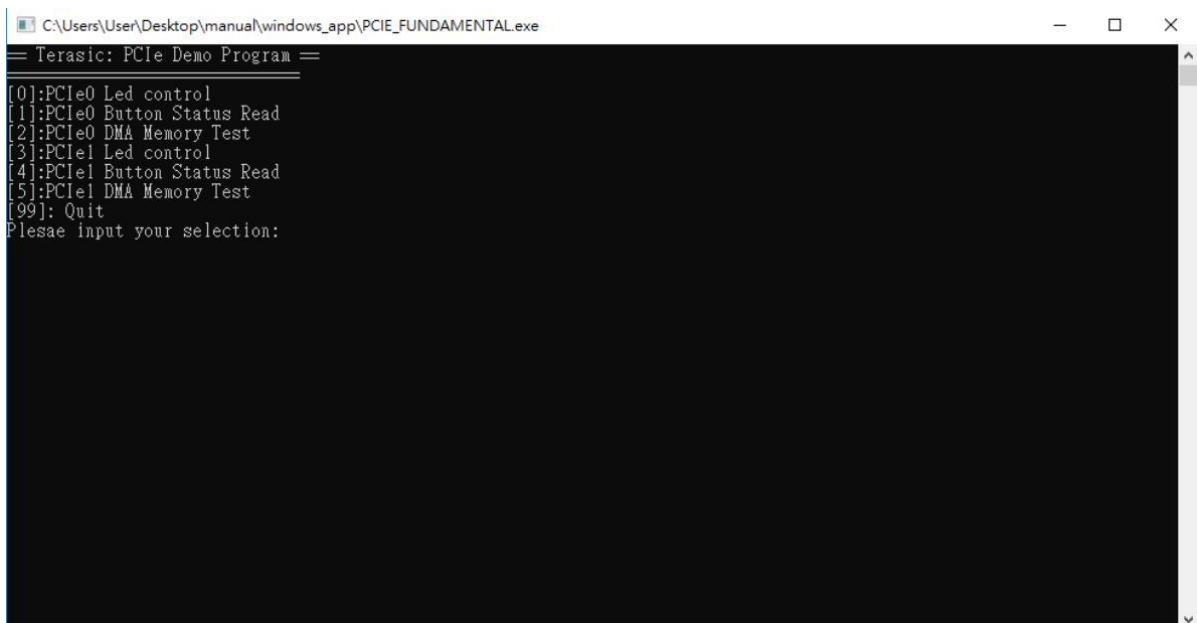

Figure 6-26 Screenshot of Program Menu
7. Go to windows_app folder, execute PCIE_FUNDAMENTAL.exe. A menu will appear as shown in **Figure 6-26**.